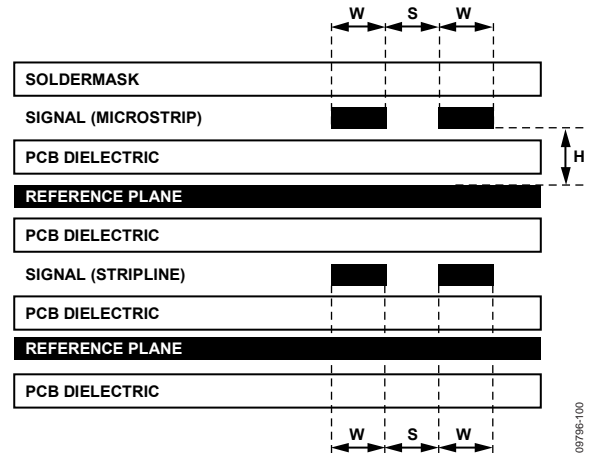

Figure 54. Example of a PCB Cross Section
The high speed differential inputs and outputs should be routed with 100 Ω controlled impedance differential transmission lines. The transmission lines, either microstrip or stripline, should be referenced to a solid low impedance reference plane. An example of a PCB cross-section is shown in Figure 54. The trace width (W), differential spacing (S), height above reference plane (H), and dielectric constant of the PCB material determine the characteristic impedance. Adjacent channels should be kept apart by a distance greater than 3 W to minimize crosstalk.